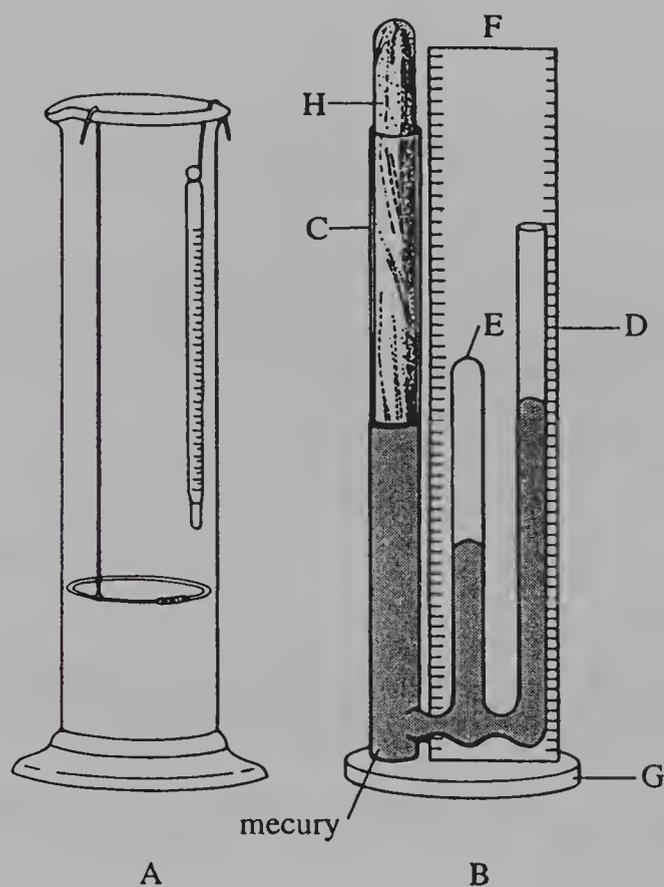
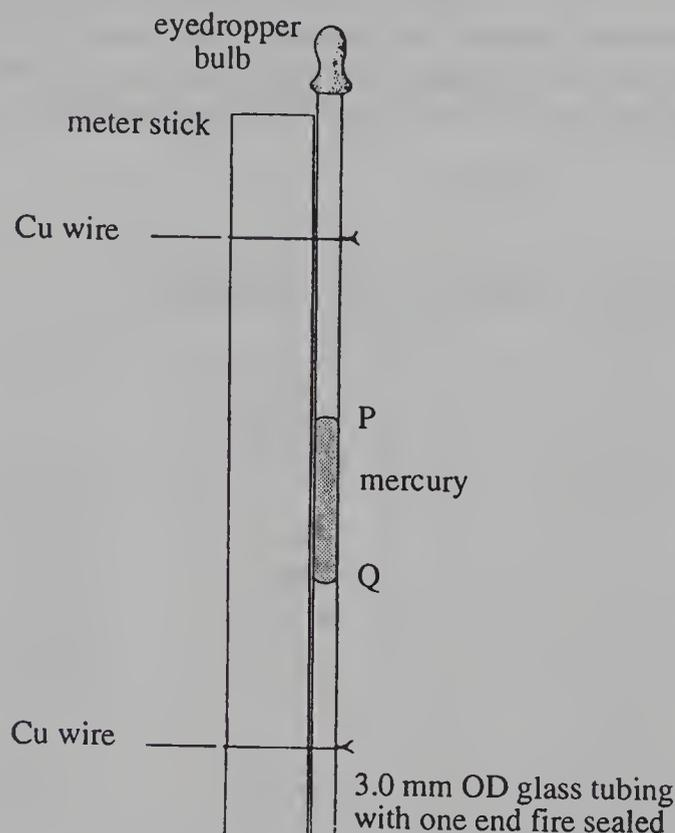

Figure 9-1. Cenco Gas Apparatus
Figure 9-2. Alternative Apparatus for Boyle's Law Verification
The simple laws that govern the properties of gases can be readily demonstrated experimentally. In this experiment a Cenco gas laws apparatus (Figure 9-1) will be used to verify Boyle's law ( $P \propto 1/V$ ) and Gay-Lussac's law ( $P \propto T$ ). A knowledge of the uncertainties in the measuring instruments that are used will allow for the calculation of the percent uncertainty in the  $PV$  products and  $P/T$  ratios, which will be very nearly constant but not exactly so. This experiment also provides experience in the correct use of recorded data and the proper interpretation of such data.
The equipment for this experiment (Figure 9-1) consists of a large hydrometer cylinder (A) and a Cenco gas apparatus (B). The Cenco gas apparatus consists of a three-tubed piece of glassware attached to a portion of a meter stick (F) and a metal base (G). The two outer tubes of the apparatus (C and D) are open to the atmosphere. The center tube (E) is closed at the top. A quantity of air (gas) is trapped in tube E between the mercury which fills the bottom of the apparatus and the sealed upper end of tube E. It is this air upon which measurements are made. A wooden plunger (H) is fitted into the larger of the two outside open tubes (C). Pushing down on this plunger increases the pressure on the air trapped in tube E and thus decreases its volume. Three different properties of the gas (air) are to be measured during this experiment. (**Caution:**
An alternative to the apparatus shown in Figure 9-1 is constructed from a meter stick, a piece of 3.0 mm OD (0.180 mm ID) glass tubing, an eyedropper bulb to prevent mercury from spilling, and some copper wire, as shown in Figure 9-2. Remove the eyedropper bulb before making measurements. With this apparatus, the three variables are measured as detailed below.